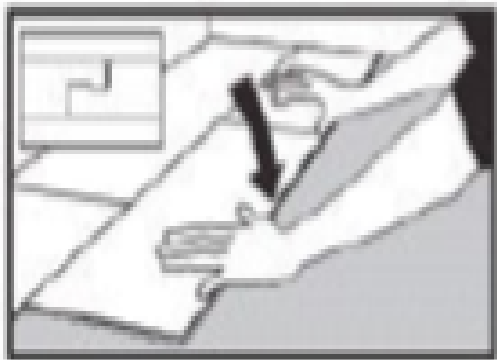

FIGURE 5
- Install the remaining rows in the same manner (figure 5).